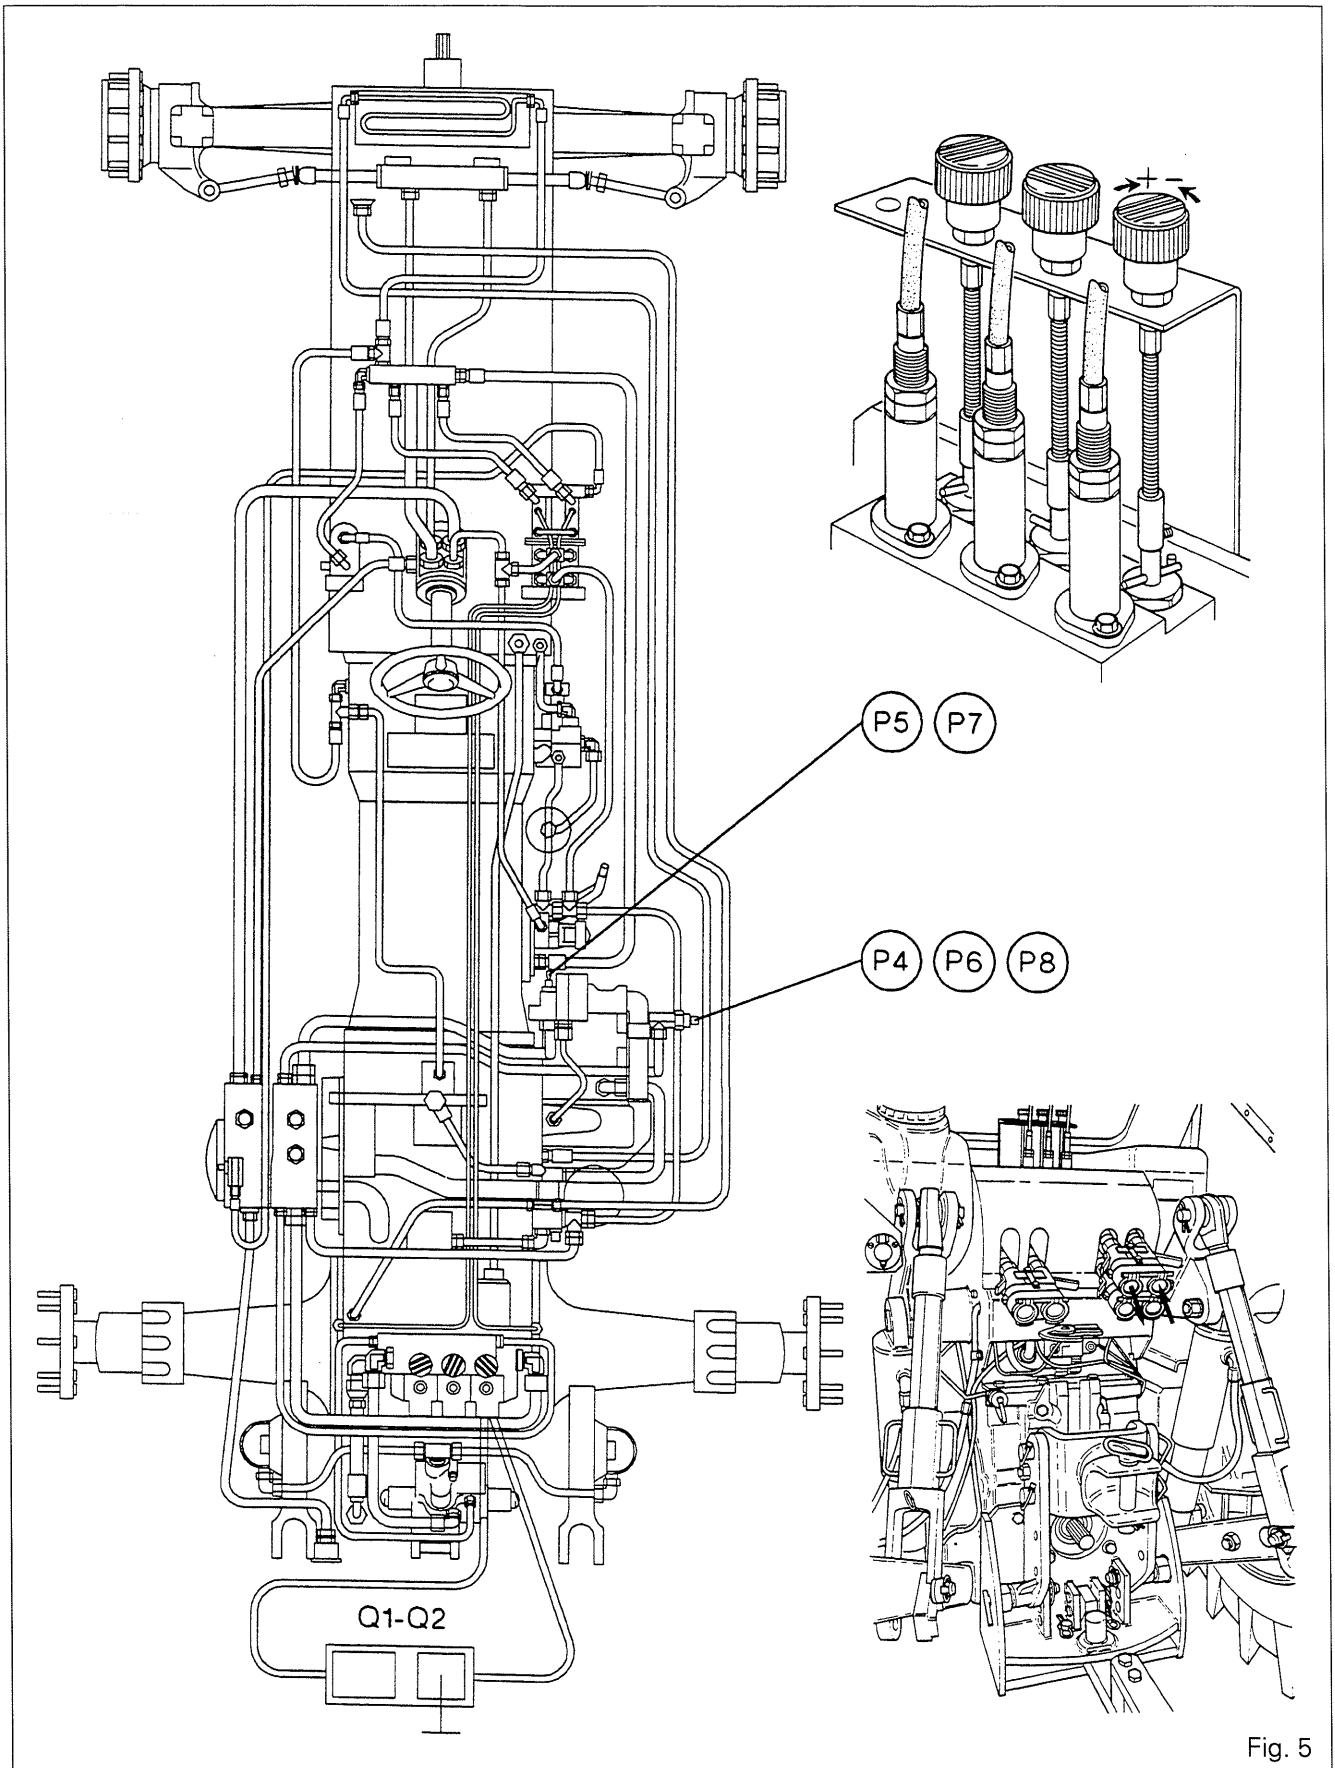

Fig. 5
- Connect a flowmeter onto an auxiliary spool valve (Fig. 5) to obtain **Q1**.
- Connect the flowmeter onto an auxiliary spool valve (Fig. 5) to obtain **Q2**.